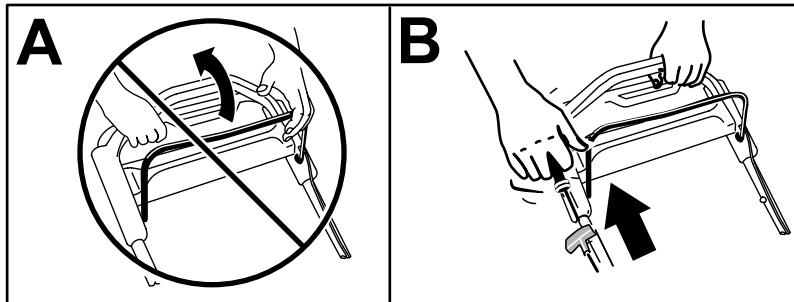

Figure 15
**Note:** You can start the engine either from the operating position (Figure 15) or at the engine (with the recoil-start handle out of the rope guide).